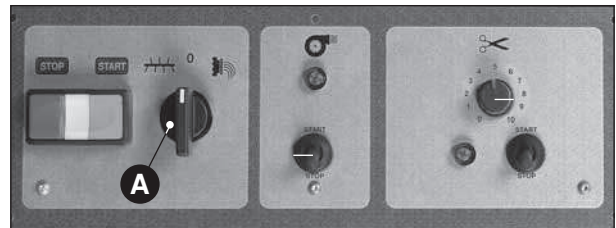

Fig. 32
Turn the selector to the knead position  (Fig. 32 A) and check:
- Make sure that the mixer is rotating counter-clockwise, facing the front of the machine, when the switch (Fig. 32 A) is placed on the “mix” position , (the Archimedean screw also turns counter-clockwise). In the “0” position all of the machine’s elements should be still; in the drawplate position , the mixer turns clockwise, the Archimedean screw should turn the same way (check from the lid slits).
- Operation of the buttons and pilot lamps according to the signs given (Fig. 32).